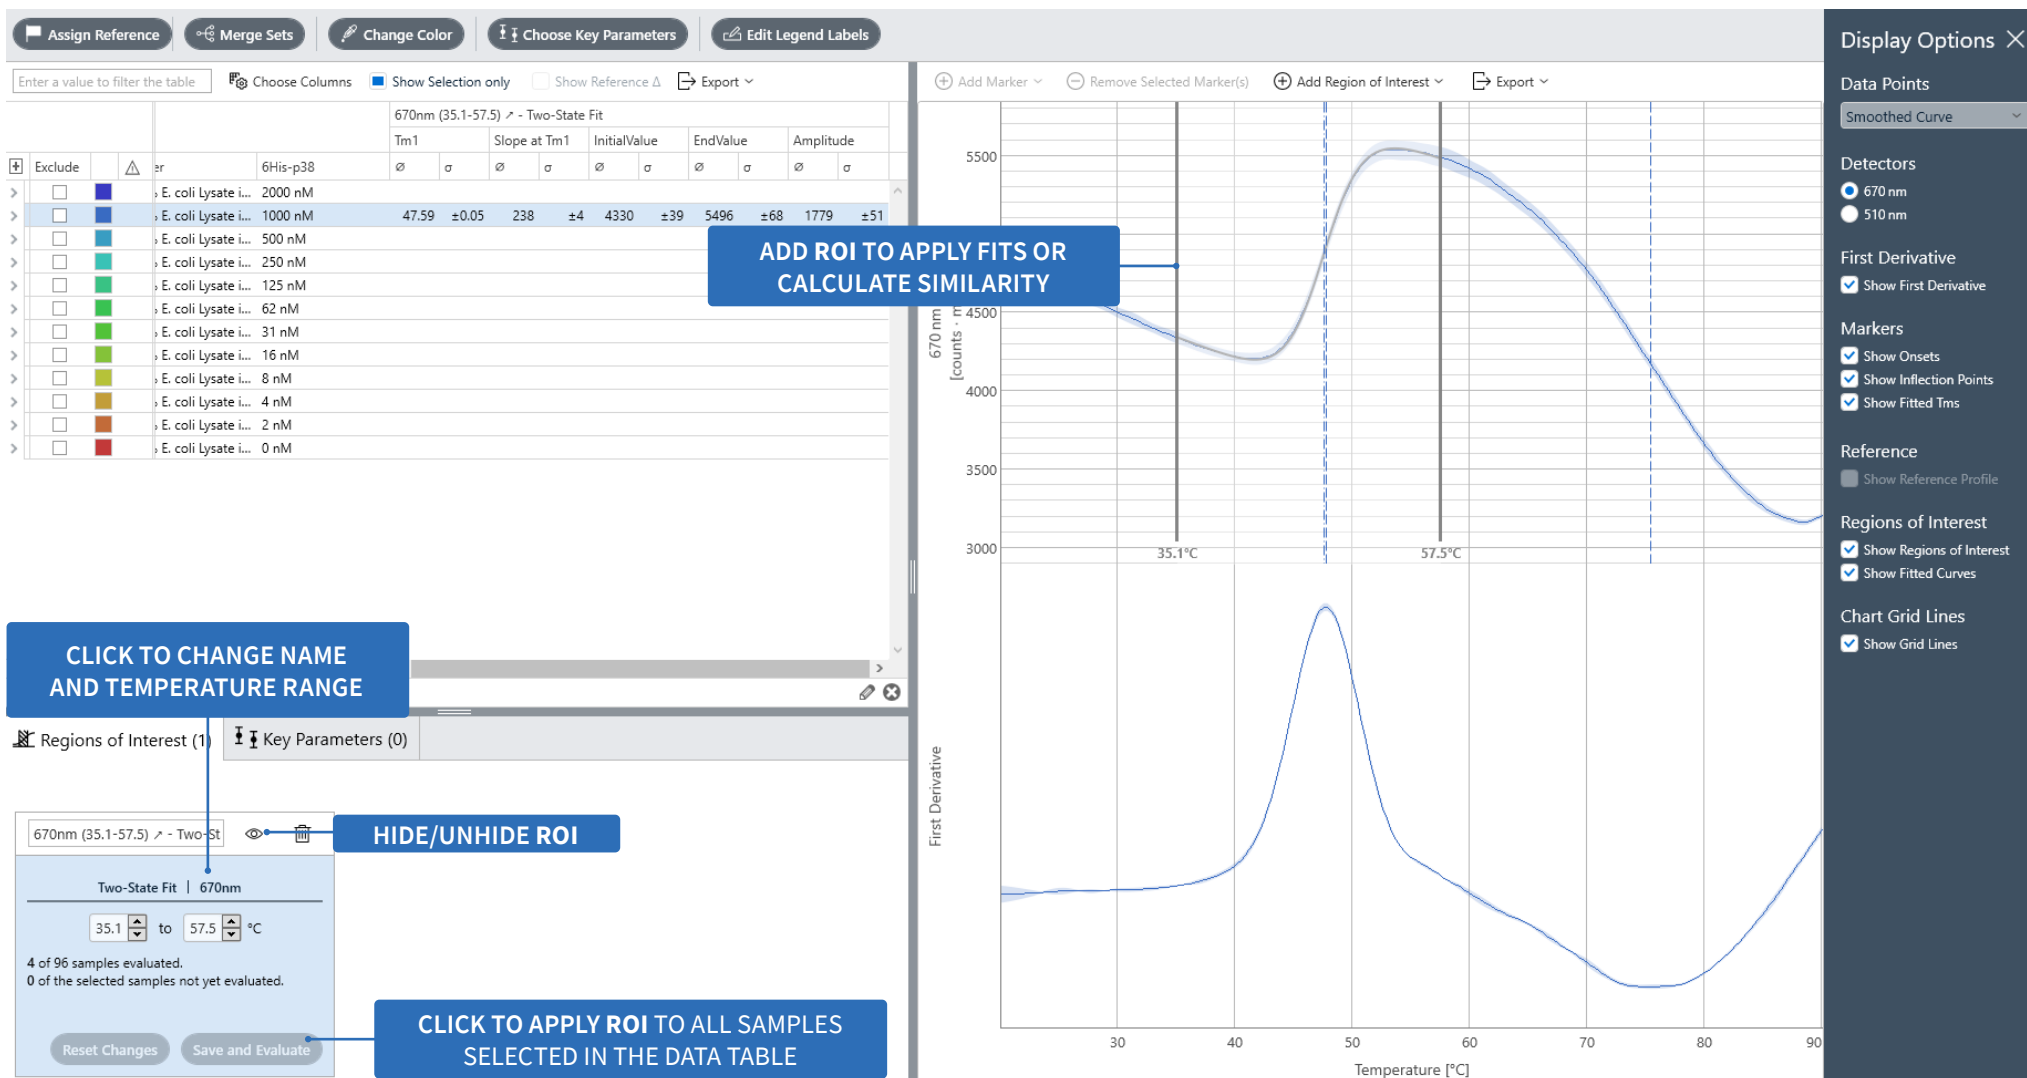

Figure 6: Display options in the charts panel and working with Regions of Interest (RoI).
The calculated inflection points (IP) can be displayed in the charts by checking *Show Inflection Points* (see Figure 6).
To perform a fit, first select which type of fit (Two-state fit or Three-state fit) you want to use via the *Add Region of Interest* menu and then select the respective region by clicking at the start and end point in the plot (see Figure 6). The calculation of fit parameters will then be carried out automatically.